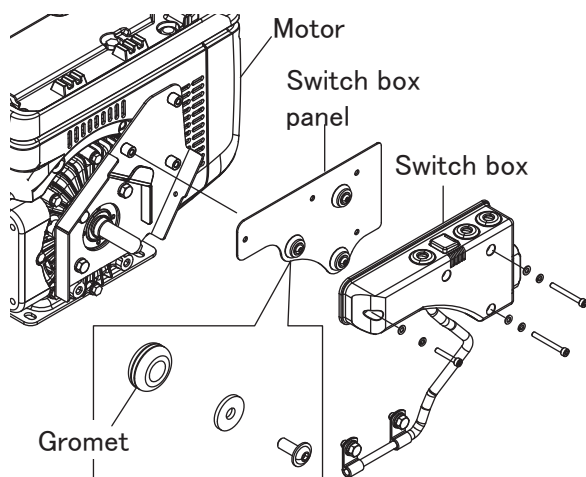

Fig.13
- c. Remove the switch box, then replace the grommet installed to switch box panel to new one. (Fig.13)